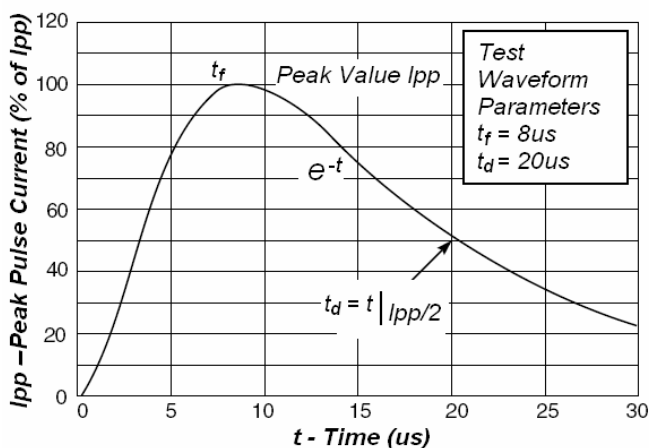

Fig1. Pulse Waveform
- Surge current waveform per Figure 1.